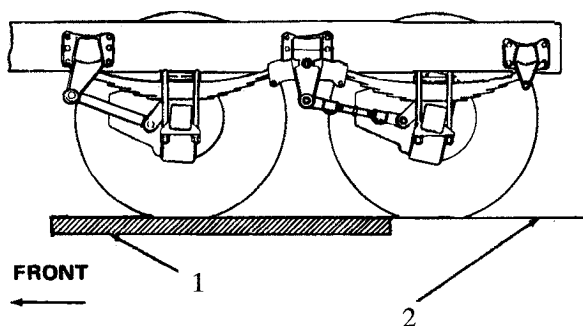

Figure 29 Weighing The Forward Rear Axle
3. When weighing the forward rear axle, the flat portion of the tire tread of the rear rear axle should be just at the edge of the scale, as in Figure 29 .